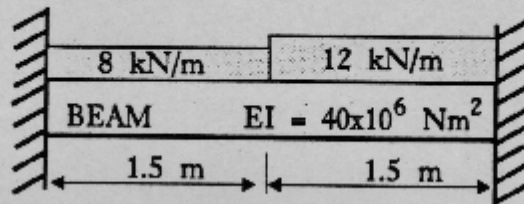

Figure Q4
4. A beam is built in at both ends and carries a distributed load along its entire span as shown in Figure Q4.